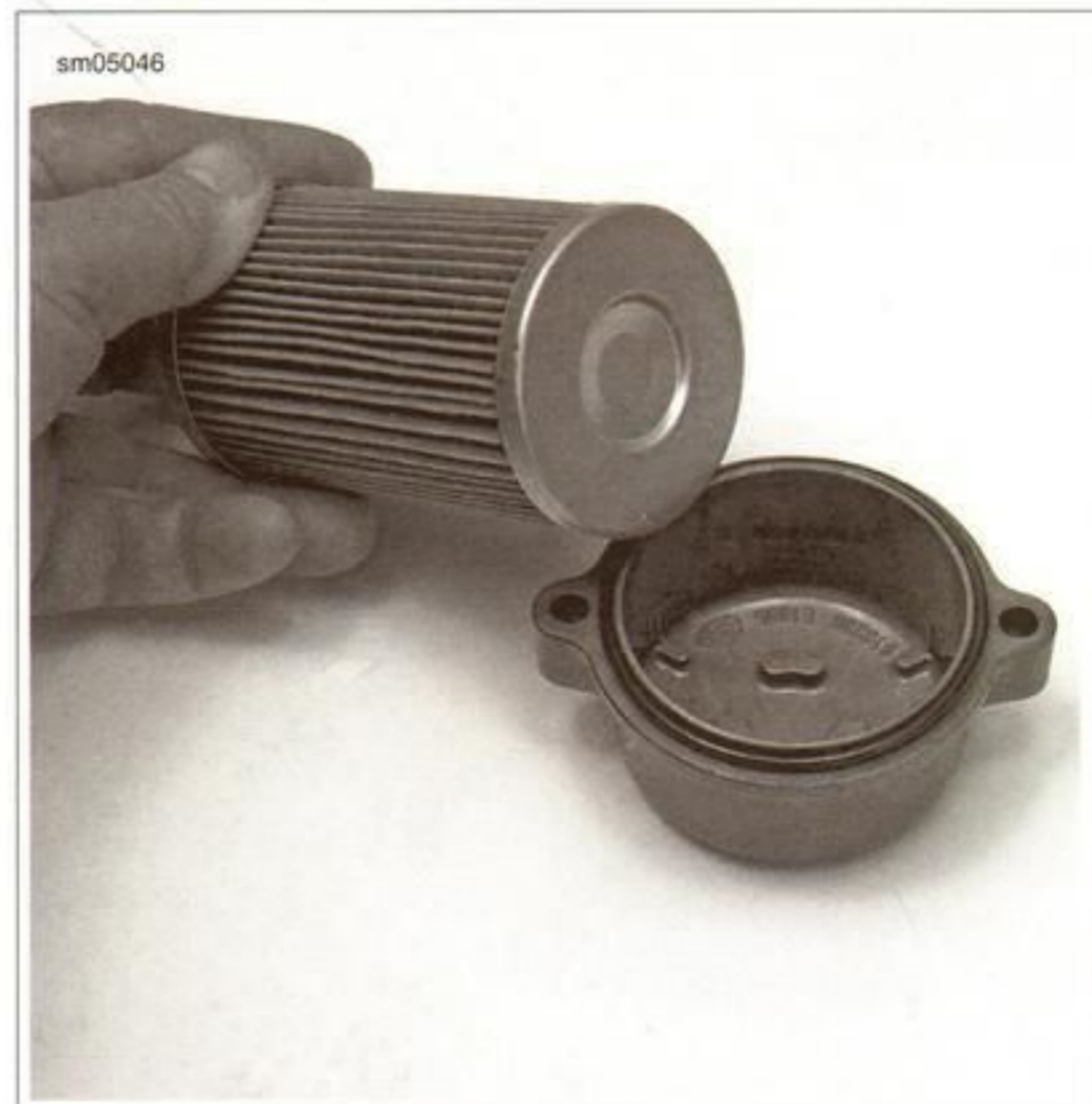

Figure 3-137. Oil Filter and Cover
5. See Figure 3-137. Push a **new** oil filter into the cover until it seats.